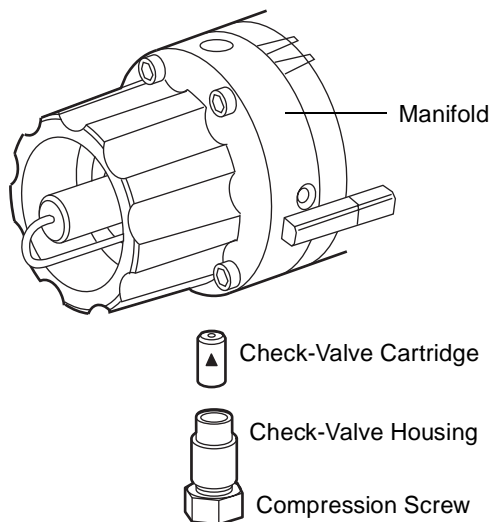

Figure 4-25 Inlet Check Valve
2. Hold the check-valve housing with the 1/2-inch wrench as you disconnect the compression screw with the 5/16-inch wrench (Figure 4-25).